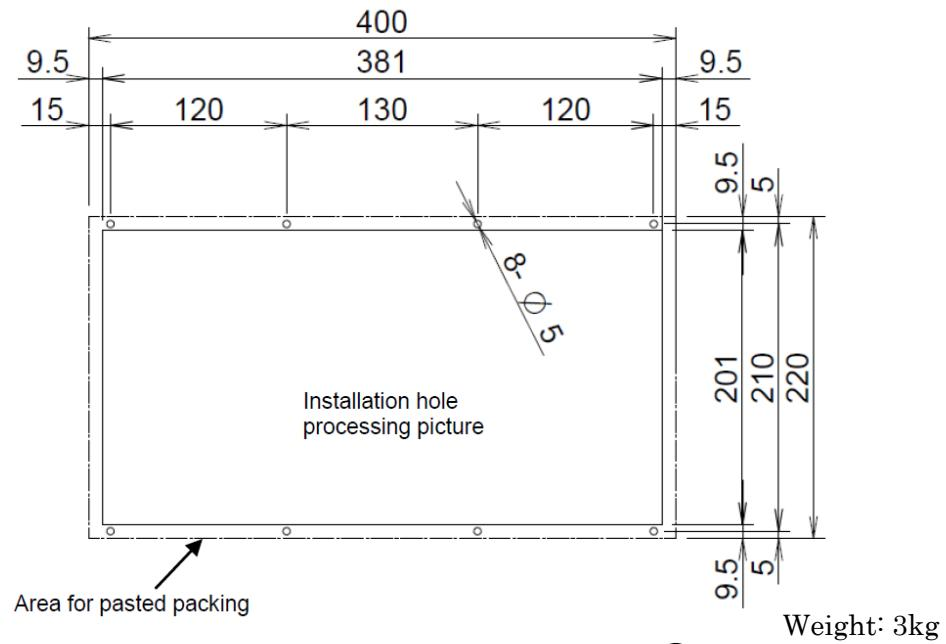

Fig. U13 10.4" LCD/MDI unit(Horizontal) ④
10.4" LCD/MDI unit(Horizontal)	Fig. U13
10.4" LCD/MDI unit B(Horizontal, with touch panel)	Fig. U13